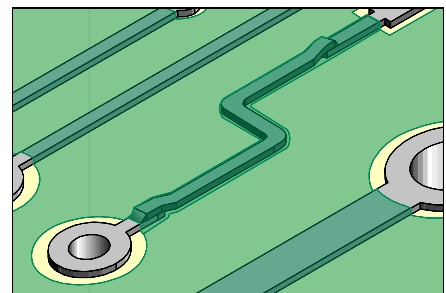

Figure 6: Coat the top and sides of the Circuit Track with epoxy.
18. Coat the top and sides of the Circuit Track with epoxy. The epoxy bonds the Circuit Track to the PC board surface and insulates it. A wooden stick sharpened at one end may be used to apply and spread the epoxy. (See Figure 6).